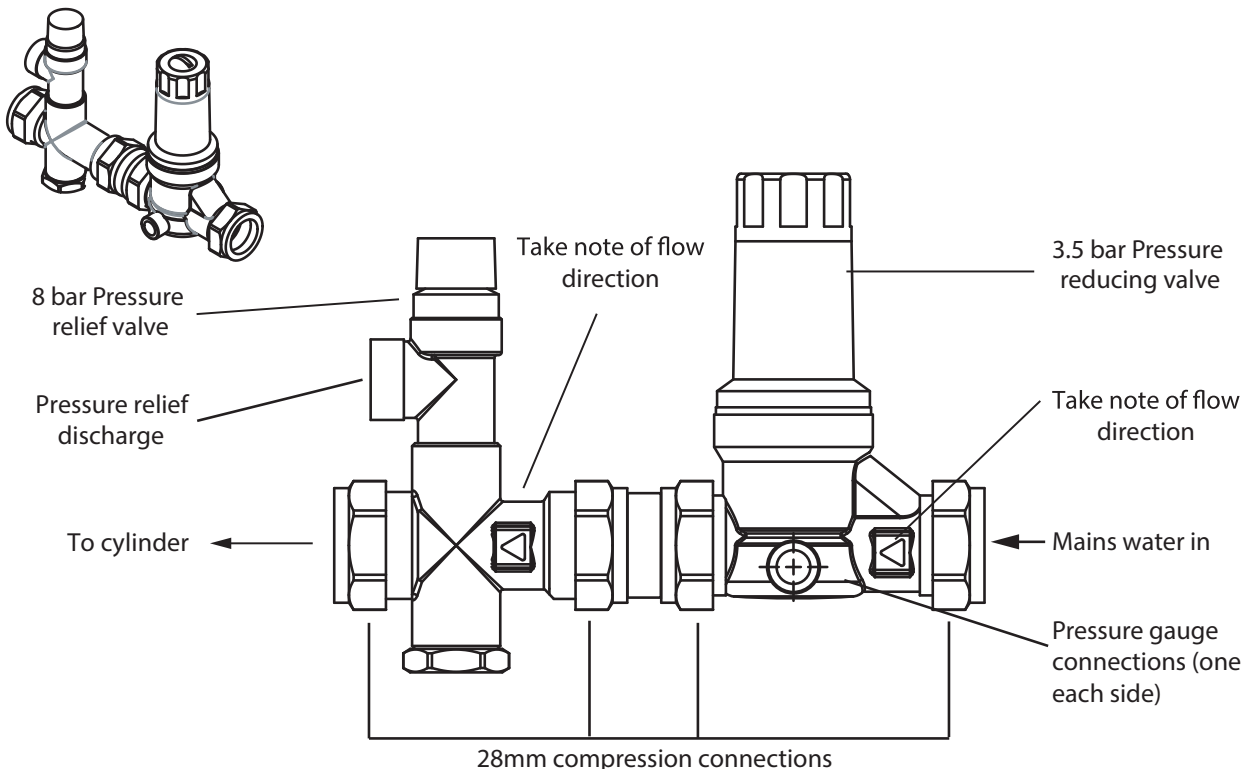

Figure 13: Cold water combination valve
3.58 The discharge pipe (D2) should be at least one pipe size larger than the nominal outlet size of the safety device unless its total equivalent hydraulic resistance exceeds that of a straight pipe 9m long, i.e. for discharge pipes between 9m and 18m the equivalent resistance length should be at least two sizes larger than the nominal outlet size of the safety device; between 18 and 27m at least 3 sizes larger, and so on; bends must be taken into account in calculating the flow resistance. See Fig 13, Table 3 and the worked example.